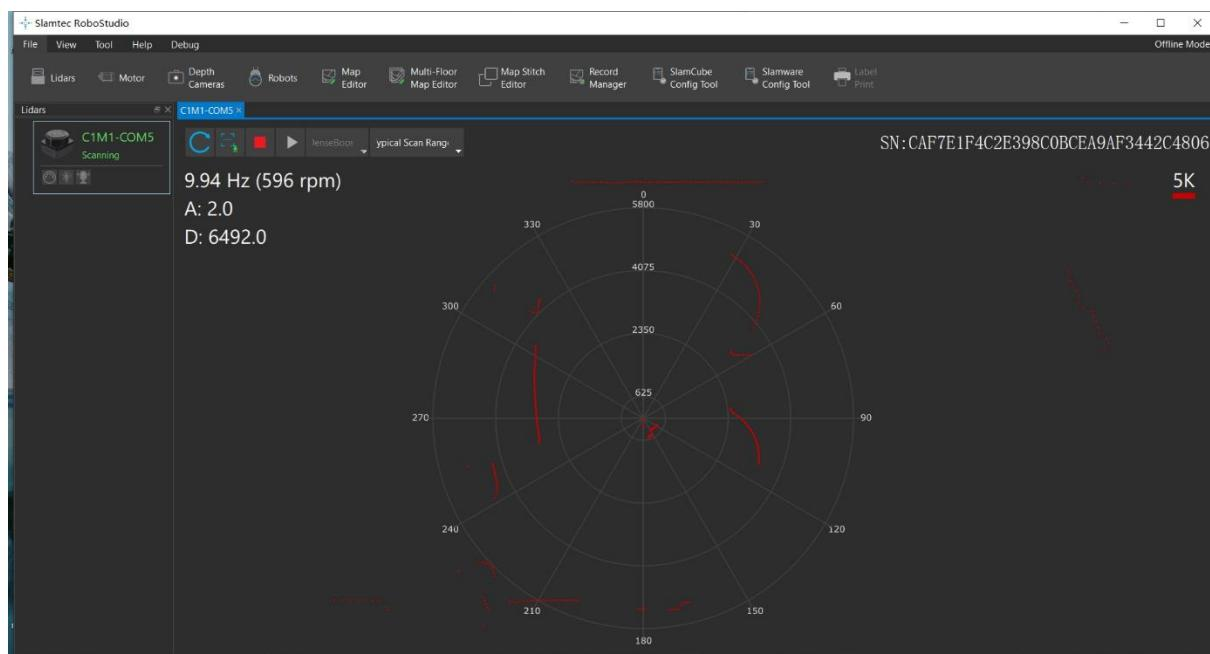

Figure 2-7 The Lidar Plugin in RoboStudio
3. Click the RPLIDAR C1 icon to extend the tool buttons below the icon: the left one is to adjust the motor speed while the right one is to open the tool bar in the major work area as shown in Figure 2-7.
| FIGURE 2-7 THE LIDAR PLUGIN IN ROBOSTUDIO | 8 |